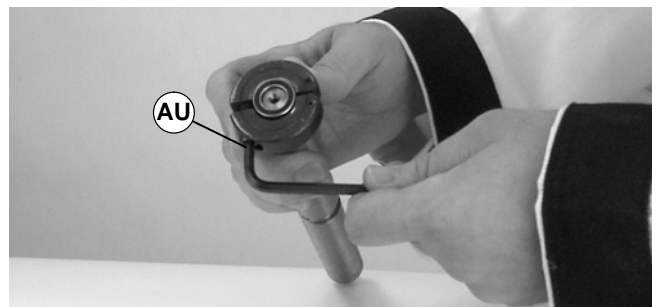

Figure 36
2. Using 3/16" hex key wrench (AU of Figure 36), tighten tool.